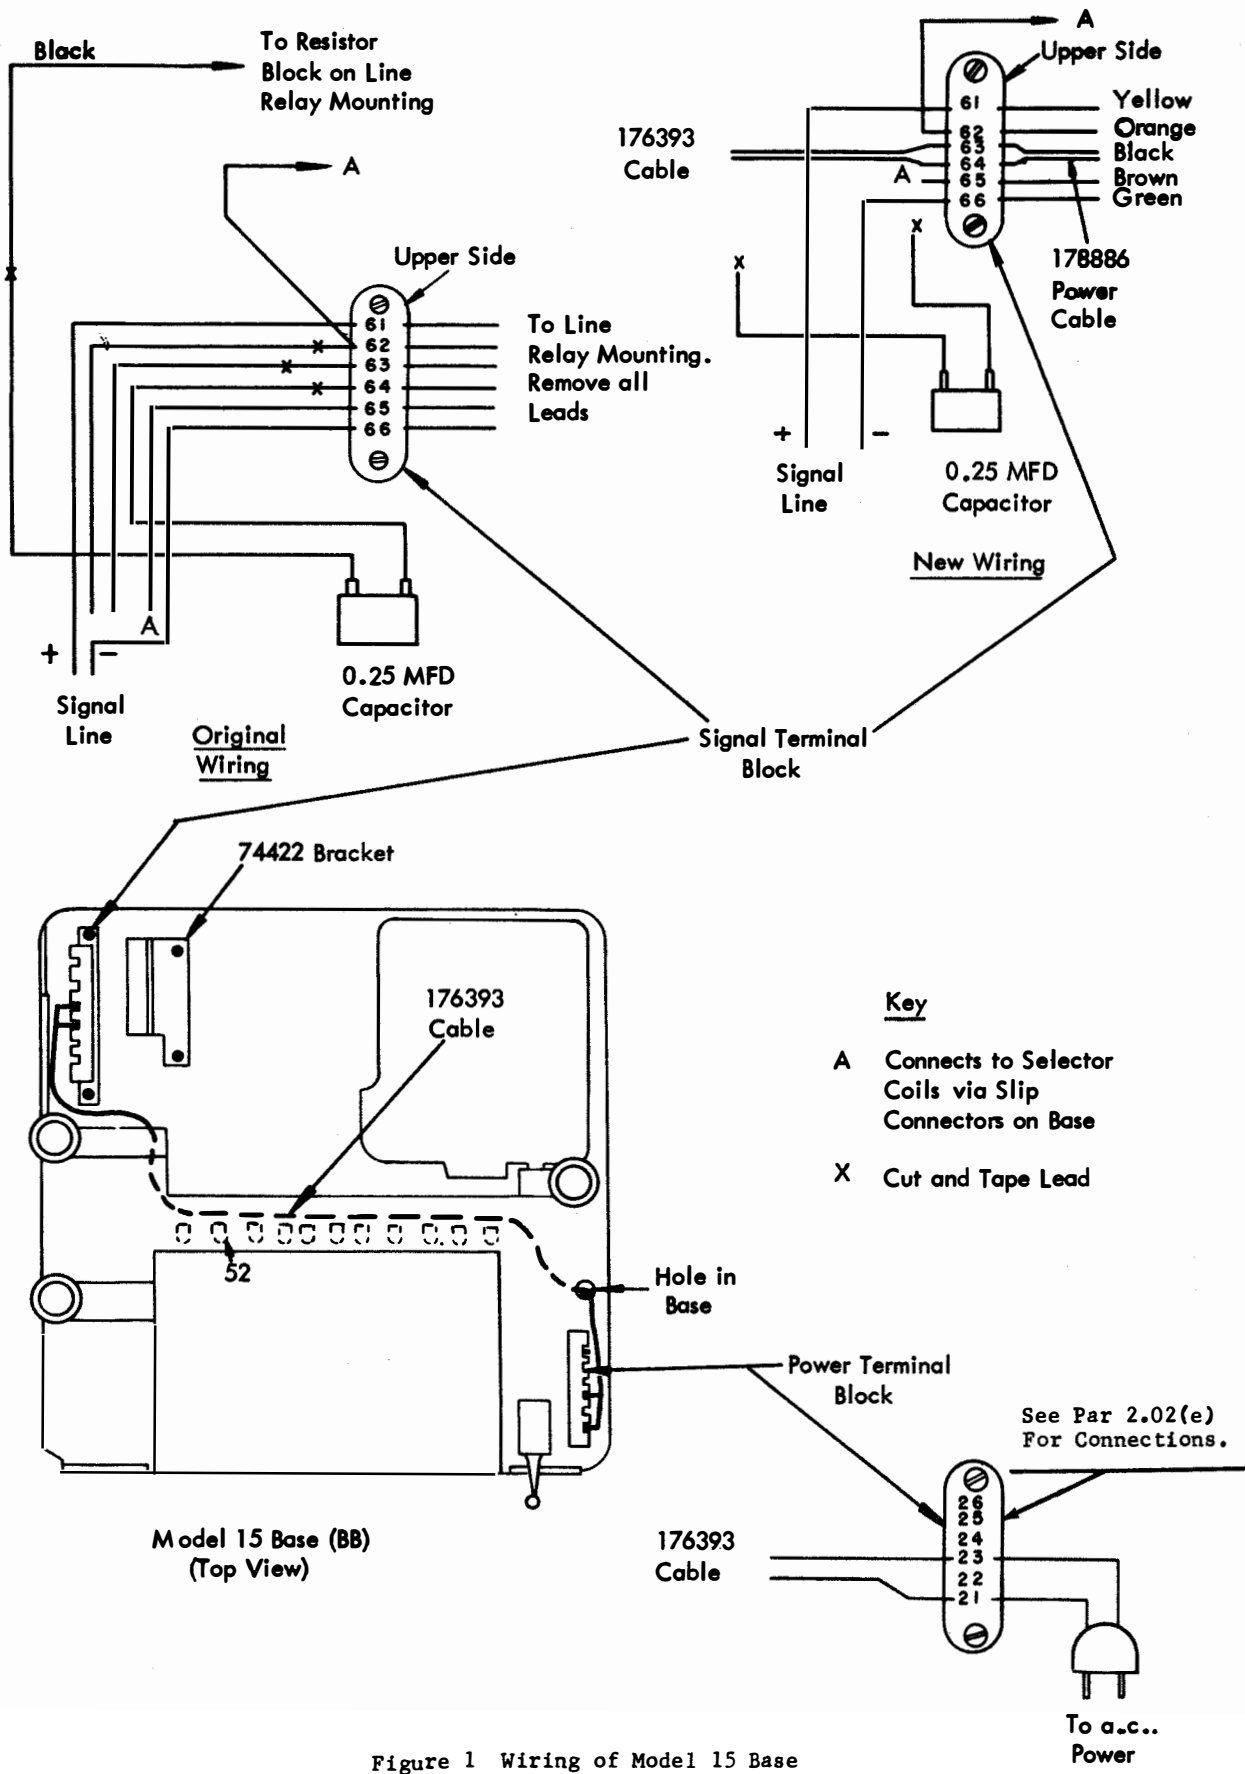
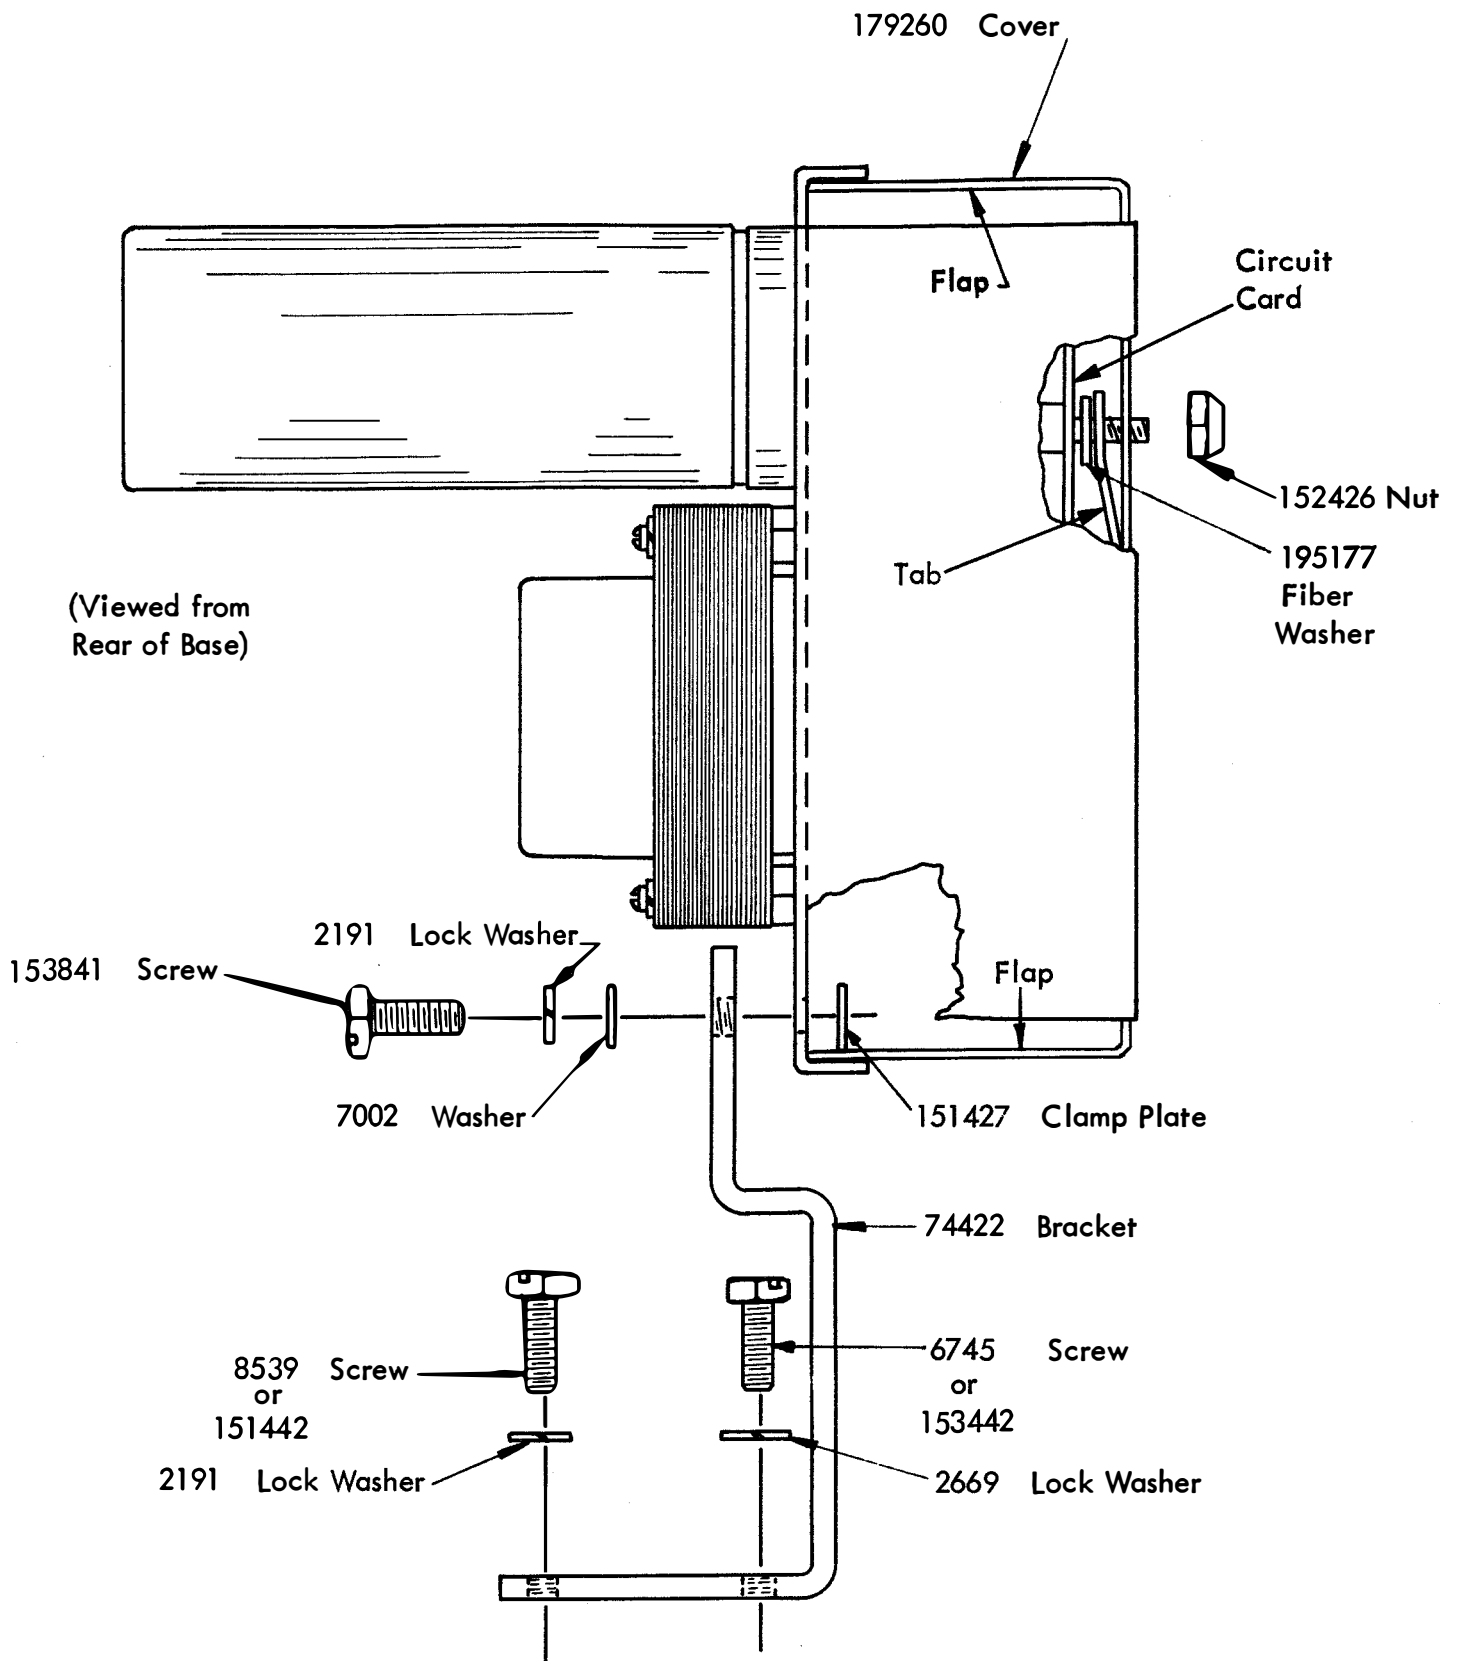
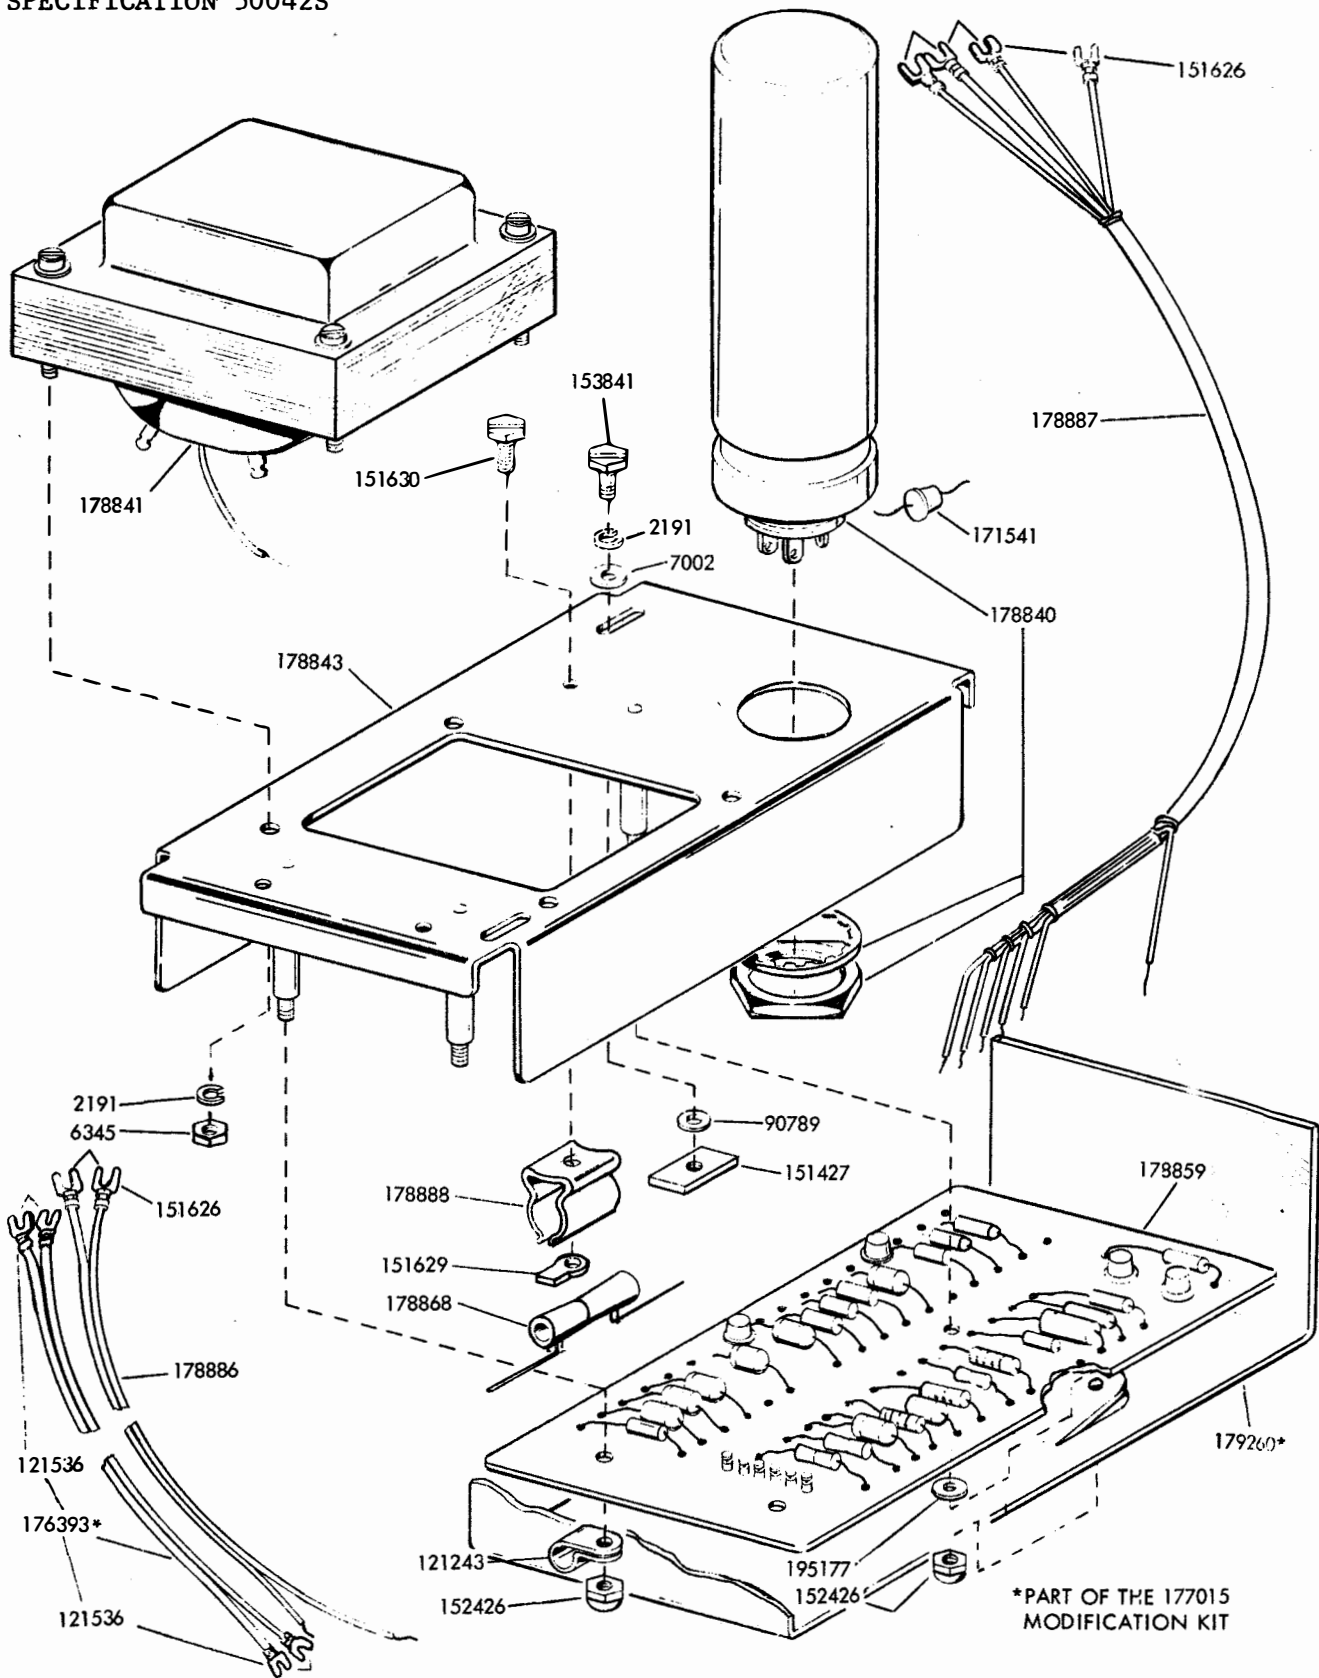

Figure 1 Wiring of Model 15 Base
Figure 2 Mounting on Model 15 Base
Figure 3 177010 Electronic Selector Magnet Driver
Note: Because of variations in wiring, it is not possible to give specific instructions for each equipment. The following instructions apply to typical units. Wiring of individual units should be compared to Figure 1, and necessary modifications in the installation procedure should then be made.
- (1) Remove all wiring from terminals 61 through 66 on the upper side of the signal terminal block (Figure 1). These wires all run to line relay mounting.
- (2) Cut and tape wire that connects to terminal 64 on the lower side of the signal terminal block. Cut and tape black wire that runs between the 0.25 MF capacitor and the resistor block on line relay mounting. These two wires both connect to the 0.25 MF capacitor which is not used with driver. This capacitor may be left in place since its removal is inconvenient. Following instructions assume that it is left in place.
- (3) Disconnect and tape wire that runs between slip-connection terminal 52 and terminal 62 on lower side of the signal terminal block. Leave other wire on terminal 62. Disconnect and tape wire that connects to terminal 63 on lower side of signal terminal block.
- (4) Remove 74395 relay guard or 107213 bracket, and its two 6810 mounting screws, 2669 lockwashers, and 3438 flat washers from 74422 bracket. Discard removed parts.
- (5) Remove and discard two 74014 mounting screws, 2669 lockwashers, and 112626 nuts that hold relay mounting plate to the 74422 bracket.
- (1) Disconnect and tape orange wire connected to terminal 62 of signal terminal block. Move black wire from terminal 61 to terminal 62. Other wire (white) should be left on terminal 61. Remove green wire from terminal 66 and connect it to terminal 65.
- (2) Mount 74422 bracket on the base using 153442 screw, 2669 lockwasher, and two 151442 screws, and 2191 lockwashers (see 2.01 above). See Figure 1 for location of bracket and Figure 2 for location of mounting hardware.
- (a) Remove two 90789 flat washers and 151427 nut plates from 153841 mounting screws on magnet driver (Figure 3). Remove 153841 screws with 2191 lockwashers and 7002 flat washers and slip them through threaded holes in 74422 bracket until they protrude a small amount on the other side (Figure 2). Place magnet driver on protruding screws, as shown in Figure 2. Install one threaded 151427 clamp plate on mounting screw. Install other plate on other screw. Tighten screws.
- (b) The 179260 cover (part of 177015 modification kit) is furnished flat, but is scored for bending. Place cover over edge of a surface such as a table top and form two end flaps (See Figure 2). Remove 152426 nut from
upper stud, but leave 131228 insulating washer in place. Place cover as shown in Figure 2 with tab over stud. Replace nut and tighten. Tuck flaps inside chassis' ends.
(c) Connect leads on 178887 signal line cable (Figure 3) to signal terminal block (Figure 1) as indicated below:
(d) Connect black leads on 178886 power cable (Figure 3) to terminals 63 and 64 on upper side of signal terminal block (Figure 1). Tie any excess cable to terminal block mounting bracket with lacing twine.
(e) Connect leads at one end of 176393 extension cable (part of 177015 modification kit) to terminals 63 and 64 on lower side of signal terminal block (Figure 1). Remove base plate from under side of base by removing its mounting screws. Route 176393 cable along existing cable to power terminal block as shown in Figure 1. Loosen clamps holding existing cable and place 176393 cable under them. For continuous operation, connect leads on 176393 cable to terminals 21 and 23 on power terminal block. For switch controlled operation, connect leads to terminals 22 and 23. Switch control is recommended to permit turning off ac power to driver during maintenance periods. Replace base plate.